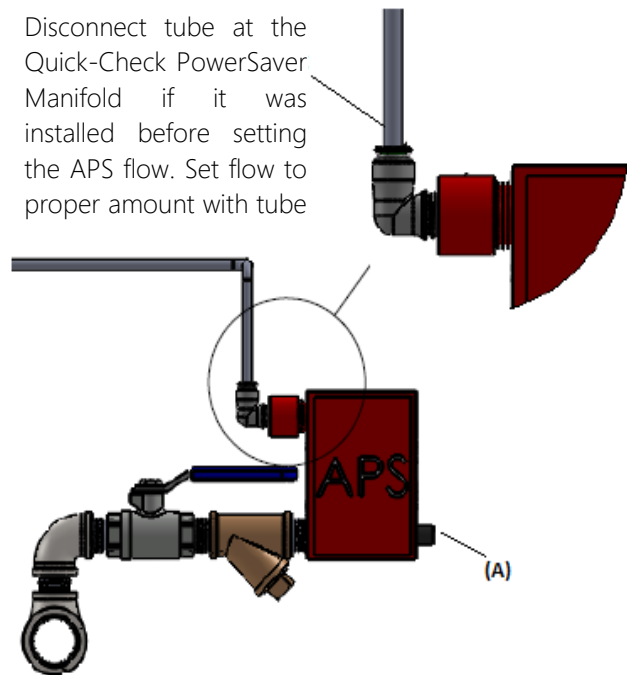

Figure 24: APS Field Installation
4. Slowly open the ball valve on each APS, then turn the APS flow control (Figure 24) counter-clockwise until the center of the float bead reaches setting D.